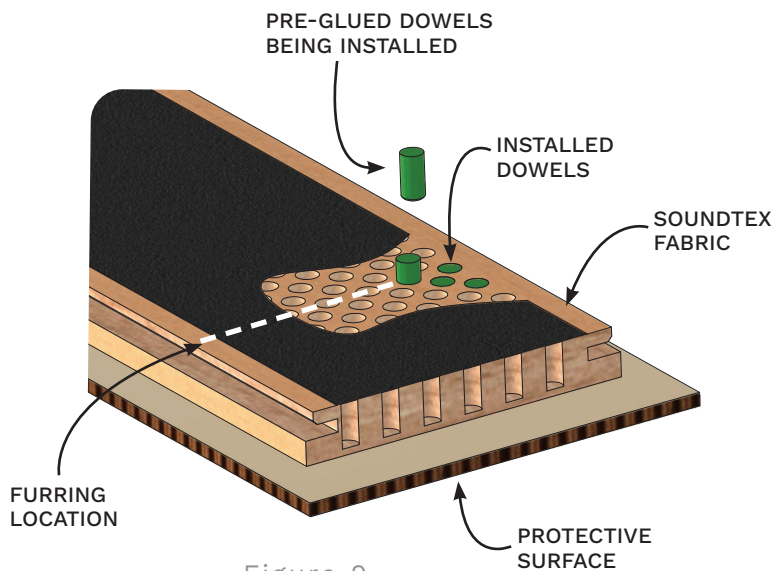
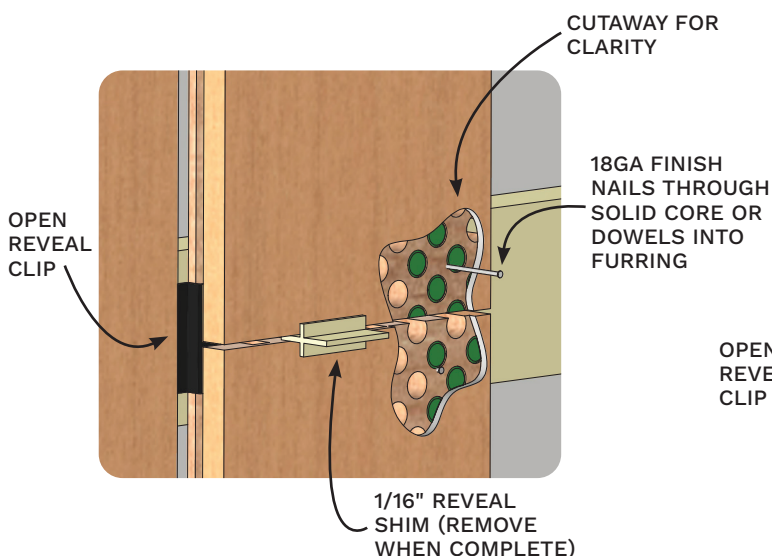
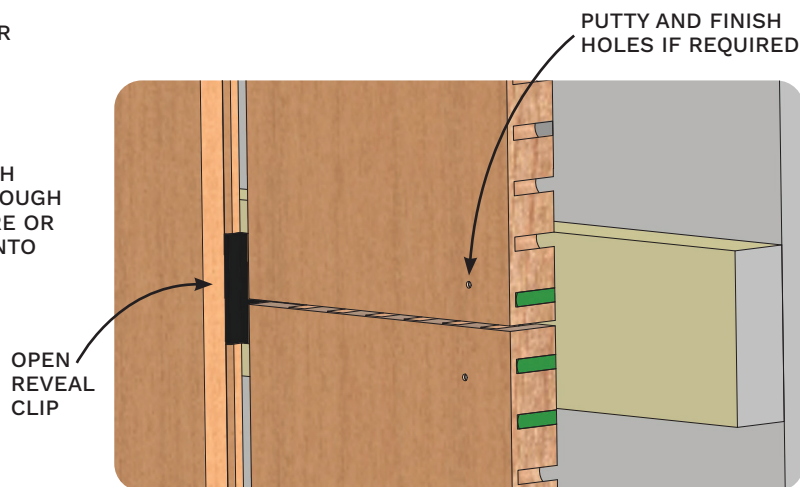

Figure 9
Figure 15
Figure 16
- On the backside, mark the furring locations on the black Soundtex fabric at the edge near the perimeter (see Figure 9).
- Cut and remove the fabric at these spots (see Figure 9).
- Install pre-glued dowels where the fabric was removed. Ensure dowels are flush with the backside (see Figure 9).
- Moisten the dowels with water, then hammer them into place with a metal hammer. Use cardboard or a soft cloth on the plank underside to prevent damage (see Figure 9).
- The dowel glue requires a one (1) hour minimum drying before handling. 24 hours are required for full strength.
- On backside, mark the furring strip locations on the black Soundtex fabric at the edge near the perimeter (see Figure 9).
- Slide the member into place and engage with open reveal clip. This sets the edge reveal between members (see Figure 15).
- Use a 1/16" reveal shim between member ends to set spacing (see Figure 15 and Figure 16).
- Use 18ga finish nails or trim head fastener to attach wood member to furring (see Figure 15).
- Use a matching putty and touchup finish to dress the holes left from finish nails (see Figure 16).